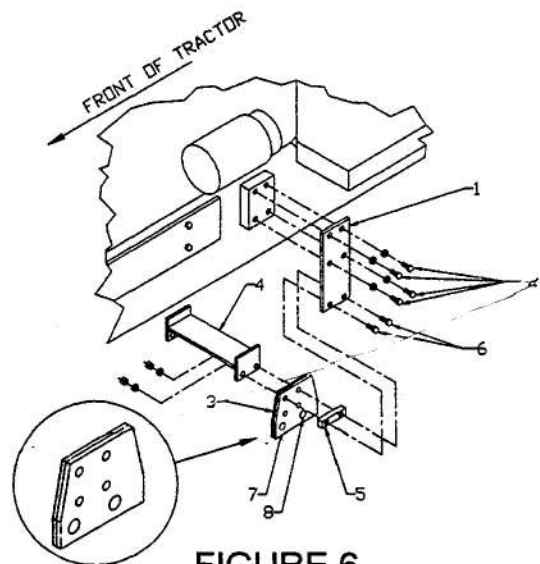

FIGURE 6
d) Install rear left support bracket (fig.6, item 1) using four bolts 14 mm X 1.5 mm X 35 mm (fig.6, item 2) with lockwashers . Do not tighten yet.
f) Install the rear attaching plates (fig.6, item 3) (weldment toward inside, with more material will facing rear of tractor) on the reinforcement bracket (fig. 6, item 4) placing the spacers (fig. 6, item 5) (refer to the subframe assembly view) between the rear attaching plates (fig. 6 item 3) and the rear support brackets fig. 6 item 1). Use four bolts 14 mm X 1.5 mm X 80 mm (fig.6, item 6) with lockwashers and nuts in the two upper holes. Do not tighten yet.
NOTE:- For L2900 and L3300, use pinhole as shown in (fig. 6, item 8) and the spacers 25 mm X 25 mm (fig. 6, item 5).
NOTE:- For L3600 and L4200, use pinhole as shown in (fig. 6 item 7) and the spacers 19 mm X 25 mm (fig. 6, item 5).